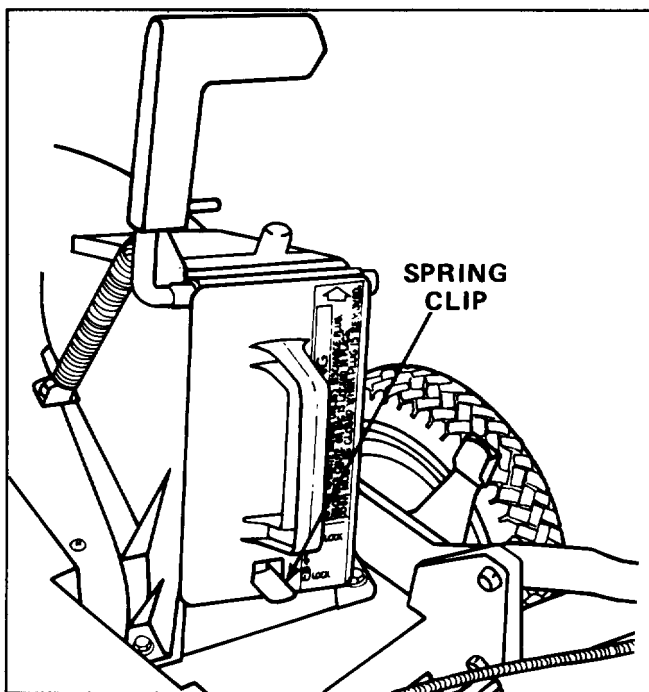

Figure 4
3. Push the plug all the way in until the spring clip on the bottom of the plug clicks into place, locking the plug securely into the discharge tunnel (Fig. 4).
4. To remove discharge plug, pull discharge door handle rearward and hold. Lift spring clip on bottom of Recycler plug (Fig. 4). Pull plug rearward out of discharge tunnel.